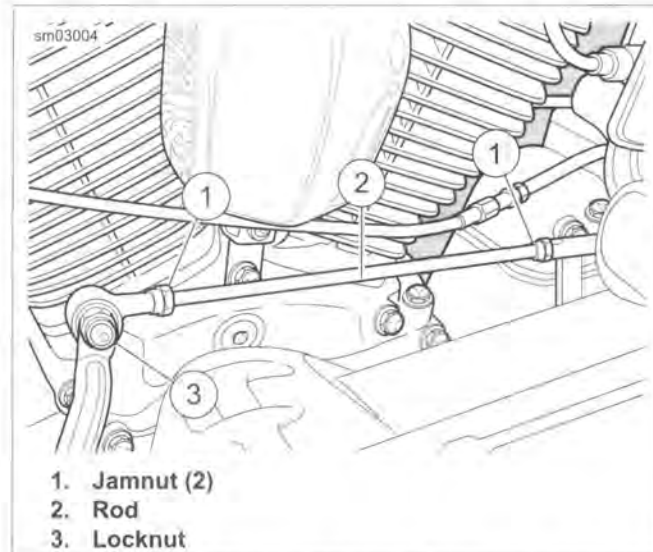

Figure 6-2. Forward Control Shifter Linkage
1. See Figure 6-2. Remove locknut (3), lockwasher and flat washer to free forward end of shift rod from inner shift arm.
2. Loosen jamnuts (1). Adjust rod (2) as necessary.
3. Secure shift rod to inner shift arm with flat washer, lockwasher and locknut (3). Tighten to 96-144 in-lbs (10.8-16.3 Nm).
4. Tighten jamnuts (1) to 80-120 in-lbs (9.0-13.6 Nm).